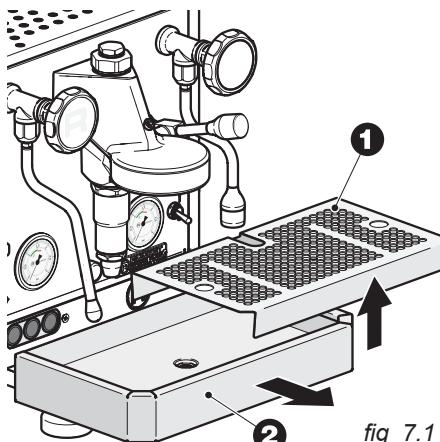

fig. 7.1
The user can vary certain machine parameters by entering "programming" mode and operating via the oled display and three selection buttons. To access the programming buttons, remove the cup warmer grid (1 - fig. 7.1) and its tray (2).